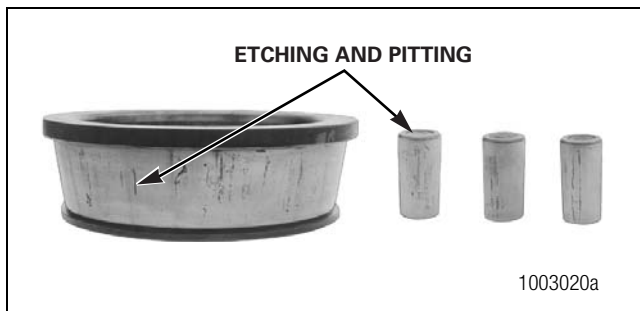

Figure 6.4
- There is damage on the rollers and on the surfaces of the cup and cone inner race that touch the rollers. Figure 6.4.